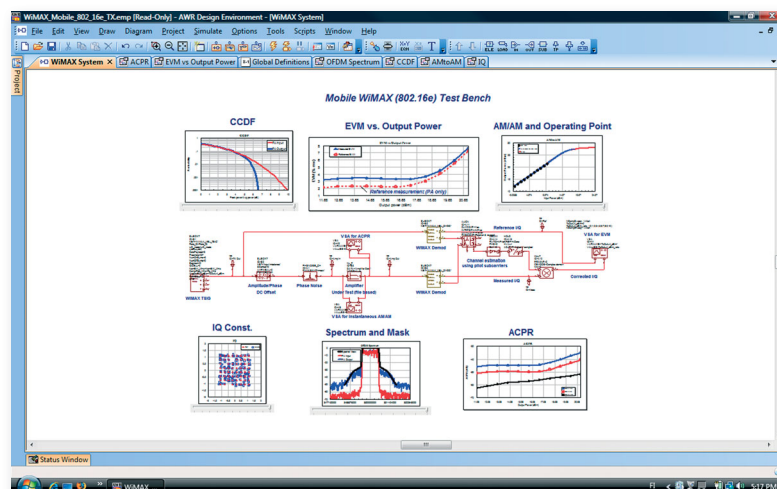

Figure 3. A WiMAX test bench in VSS: all of the required tools in one place.
- ◀ "Test benches" (Figure 3) are integrated into VSS that are dedicated to specific wireless standards, such as GSM, EDGE, HSPA, DVB-H, DVB-T, W-CDMA, IEEE-802.11a/b/g, and WiMAX, and include standard-specific measurement criteria that must be applied in order to ensure compliance with an applicable standard.